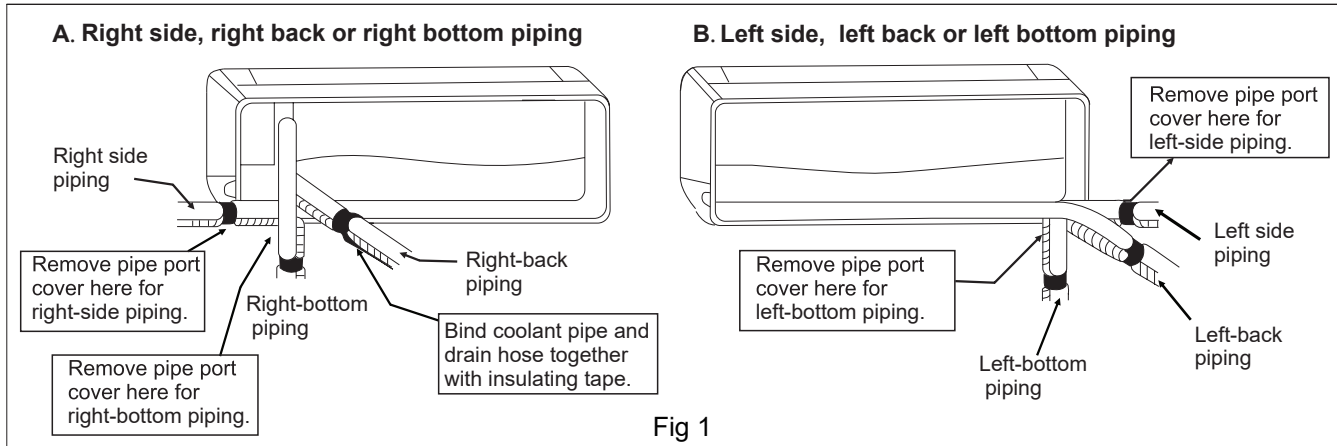

Fig 1
3. Wrap the inter-unit wire, refrigerant pipes, and drain hose together with insulation tape. (see Fig 1)